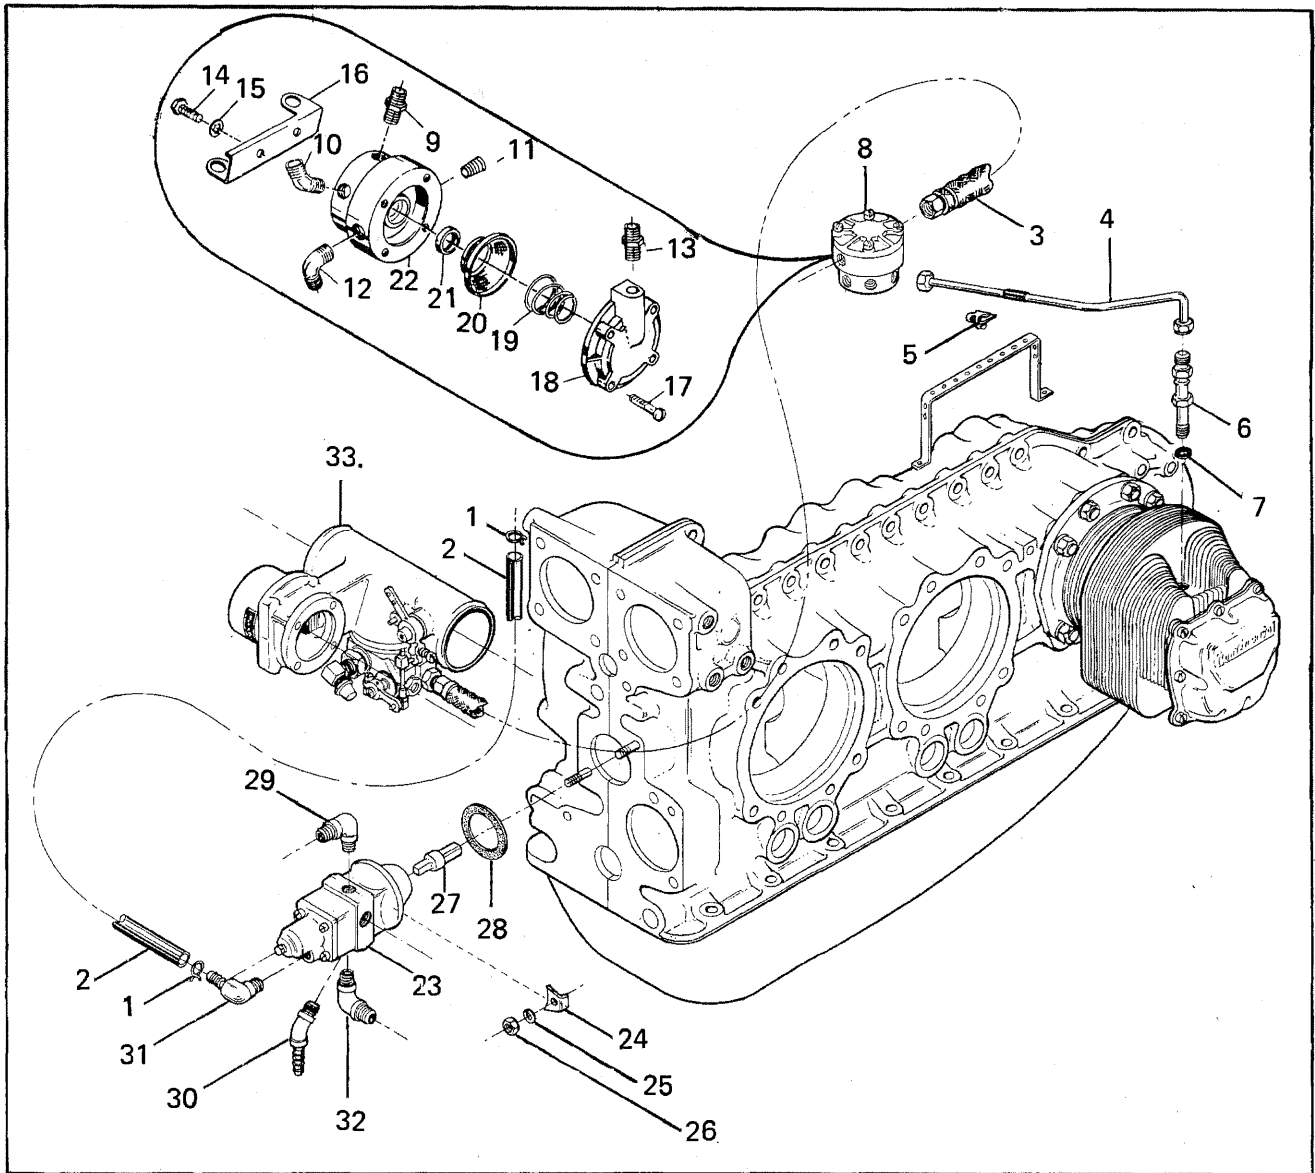

FIGURE 9-2 FUEL INJECTION SYSTEM
#### 9-5. FUEL INJECTION SYSTEM (FIGURE 9-2, 9-3)
a. (Figure 9-2) Remove hose clamps (1), hose assembly (2) fuel pump to control, and hose assembly (3) control to manifold valve.
b. Disconnect six fuel discharge tubes (4) from manifold valve (8) and nozzle (6). Compress spring legs of clamps (5) and remove. Remove nozzles (6) and washers (7). Store in clean container.
c. Remove manifold valve (8). Remove fittings (9 thru 13). Remove attaching parts (14, 15) and separate bracket (16) from manifold valve body (22). Cut lockwire and remove screws (17) and lift off cover (18). Remove spring (19) screen (20) and seal (21).
d. Remove attaching parts (24, 25, 26) and pull fuel pump (23) from crankcase. Remove drive